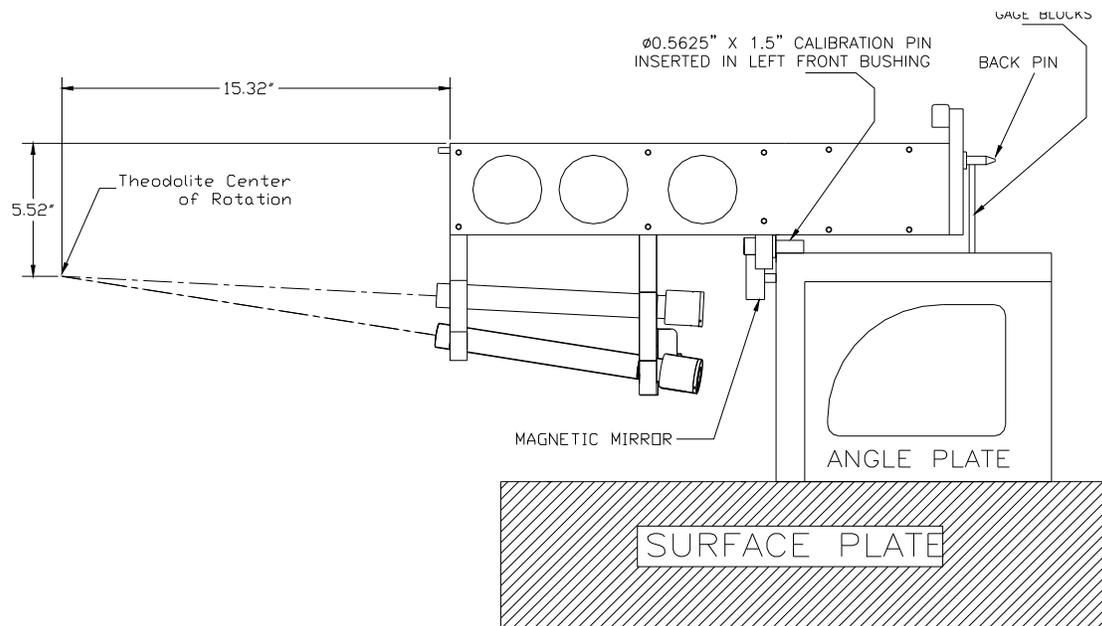

Figure 4. Side view of HUD Simulator in upright position
C. Set up the angle iron on the granite table. Turn the HUD Simulator upside down (so that the collimators are facing down). Set the HUD Simulator with the Calibration pins on top of the angle iron and gage blocks under the Round Back Pin. See Figure 4. The gage block size is calculated below.
E. Put the Magnetic mirror on the front face of the angle iron and up into the circular cutout between the HUD Simulator front bushings. See Figure 4.
G. Set up the Theodolite at the position indicated in Figure 4. Level the Theodolite. Set the Theodolite Azimuth Circle to $\sim 90^\circ$.